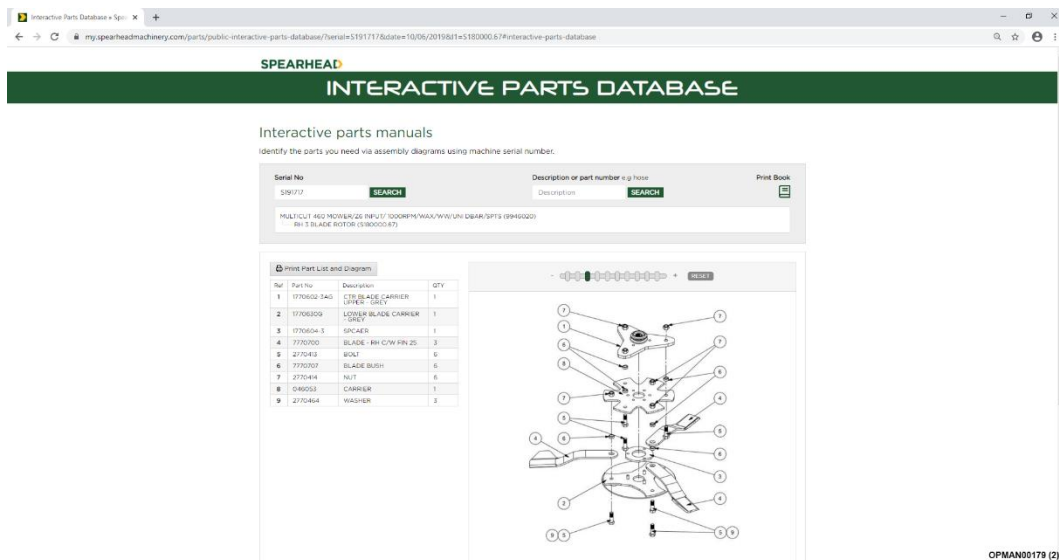

Figure 7.4 – Exploded Parts Breakdown With Bill Of Materials
- 7.2.1.4 You will finally be presented with a full exploded parts breakdown for that particular assembly, giving part numbers and the quantities required; see Figure 7.4.